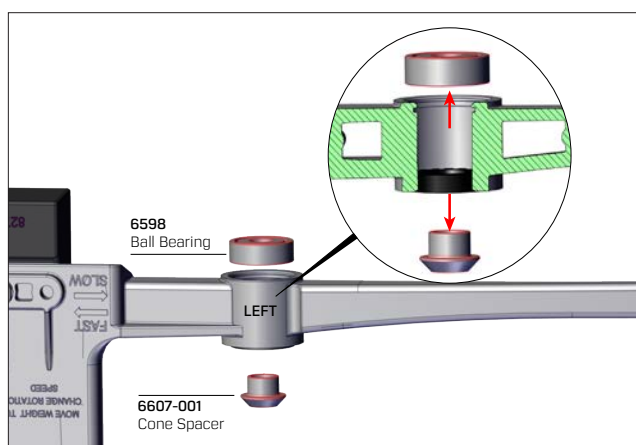
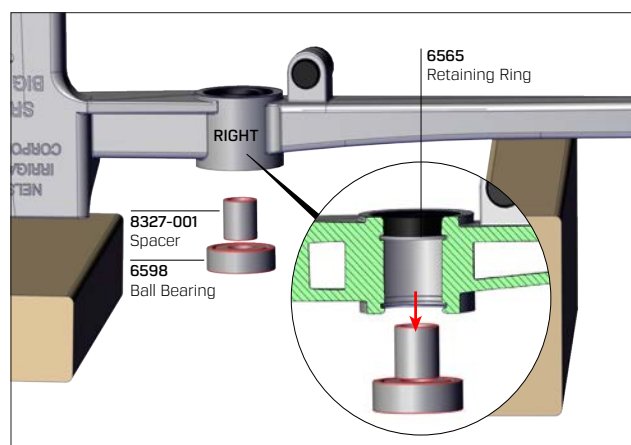
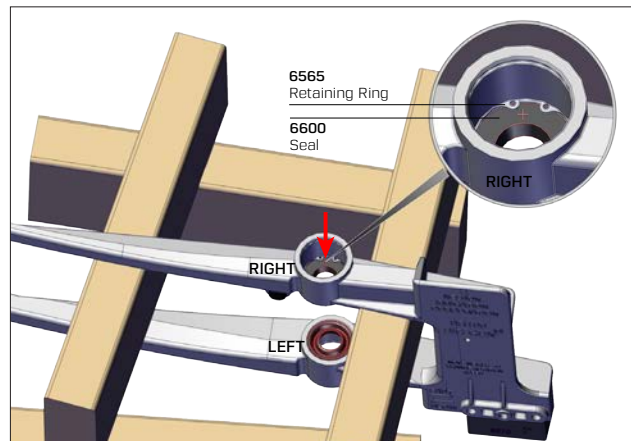

Fig. 7.
Fig. 8.
Fig. 9.
- Starting with LEFT drive arm hub, remove **#6607-001** cone spacer, and use finger pressure to push out **#6598** ball bearing in the direction shown in Fig. 7. If finger pressure will not remove bearings, use a screwdriver and hammer to lightly tap bearings out, positioning the drive arm as shown in Fig. 9 on the following page.
- In the RIGHT drive arm hub, push out the **#8327-001** spacer and **#6598** ball bearing in the direction shown in Fig. 8. See also Fig. 9 and caution on following page.
- C. Support drive arm using wood blocks as shown in Fig. 9. Push #6600 seal out of hub with screwdriver (or punch) and hammer.
CAUTION: Bore of RIGHT drive arm bearing hub contains retaining ring #6565. As shown in Fig. 8 and 9, this retaining ring is located between #6600 seal and #6598 ball bearing. The seal and bearing must be removed in the correct direction, or else damage to the drive arm hub will result!